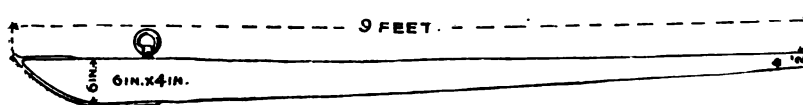

FIG. 19.—RAISING LEVER.
**Track Levers,** Fig. 19 are used when track is being raised considerably, several men being able to bear down on them at one time. A ring is provided at one end to facilitate carrying. They are best made of oak, and in length about 9 to 10 ft. They are shod with 5 1-2 in. iron